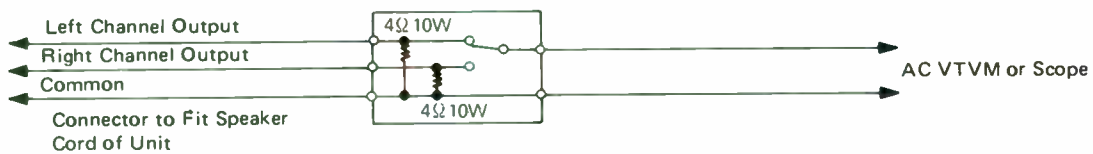

Figure 7
2. Connect an AC voltmeter (VTVM) across speaker or dummy load (4 ohm, 10W wirewound resistor). See Figure 7.